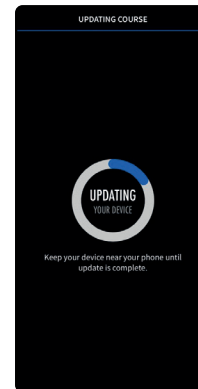

Fig 3 - Updating your device
4. Select the course you wish to update, the app will then display "Updating your device" (fig.3)